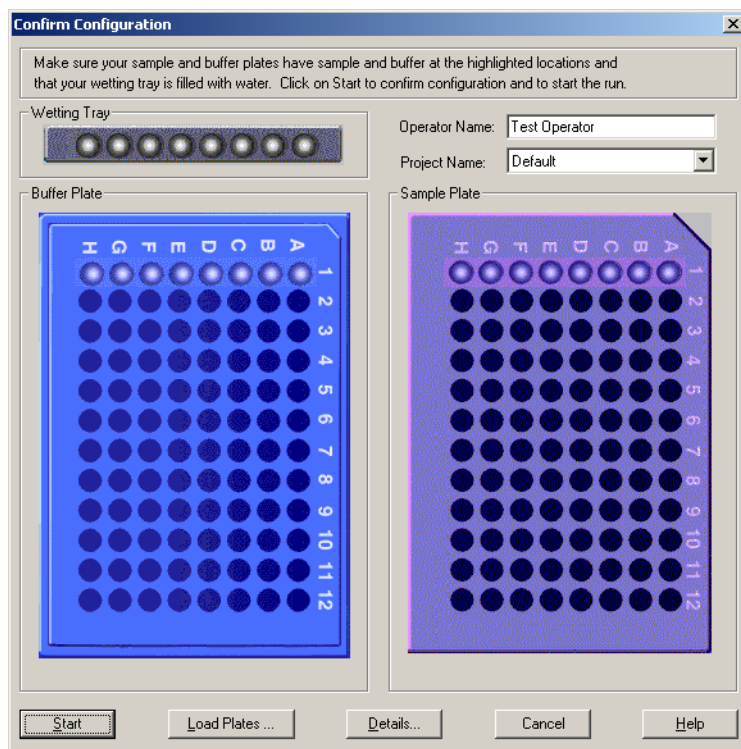

Figure 1.17 Confirm Configuration Dialog
3. In the **Confirm Configuration** dialog box (Figure 1.17), verify the sample and buffer set locations